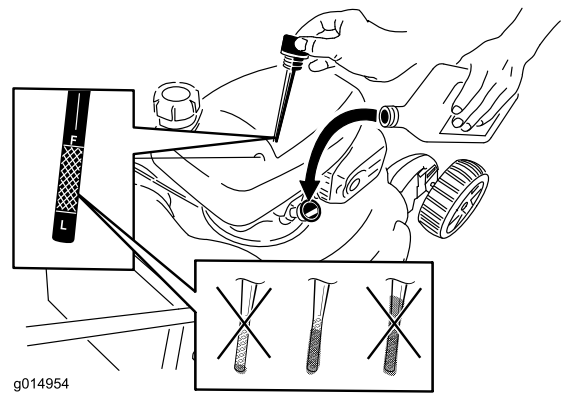

Figure 15
2. Remove the dipstick and check the oil level (Figure 15). If the oil level is below the **Add** mark on the dipstick, slowly pour oil into the oil fill tube to raise the oil level to the **Full** mark on the dipstick. **Do not overfill.** (Max. fill: 20 oz., type: SAE 30 detergent oil with an API service classification of SF, SG, SH, SJ, SL, or higher.)
1. Remove the dipstick, wipe it clean, and fully install the dipstick (Figure 15).